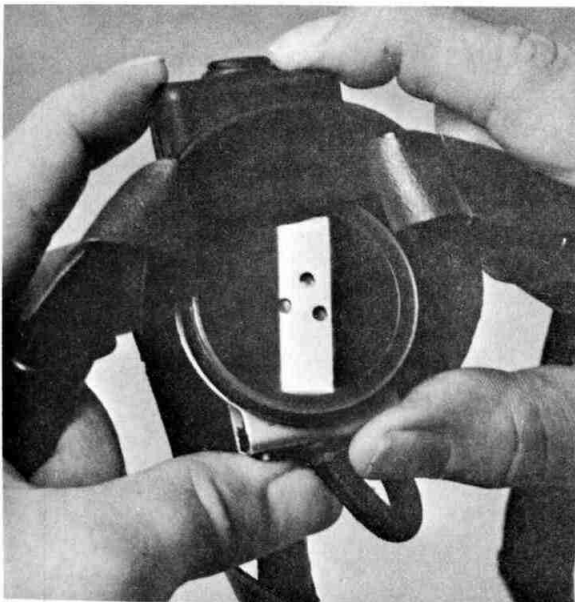
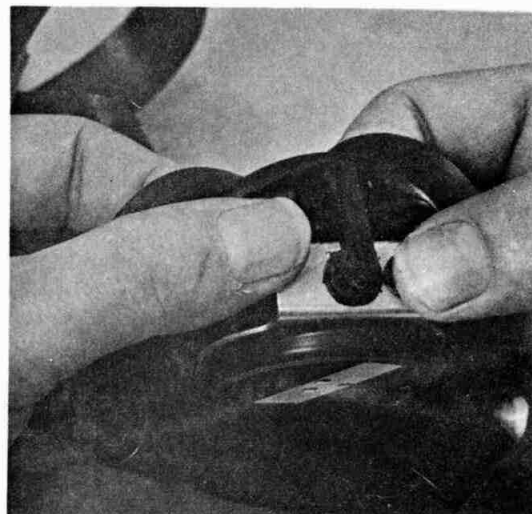

Fig 7 - Replacing the moulding (1)
Fig 8 - Replacing the moulding (2)
8. To assemble the headset the reverse procedure should be followed. When starting to assemble the headset take care that the support is fully engaged into the moulding as in Fig 7. After the cable assembly has been fed through the moulding, the headset should be held as in Fig 8 before the moulding is finally rolled on.